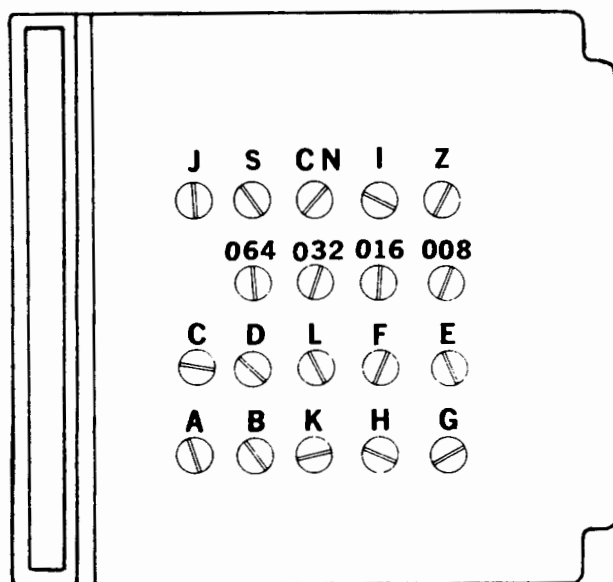

Figure 2. Screw-down Option Locations.
5.03 The 443 module is provided with internal screw-down connections to permit: (1) Idle Line Termination control, (2) operation of the Idle Line Termination relay with either a 24 or 48 Vdc supply, (3) 600 or 900 ohm 2W impedance, and (4) the addition of network build out capacitors. The 443 module is factory conditioned to include options S1, A, B, G, and H. If it is necessary to make a change in conditioning, refer to Figure 2 for screw-down option locations and perform all optional conditioning in accordance with the following paragraphs.